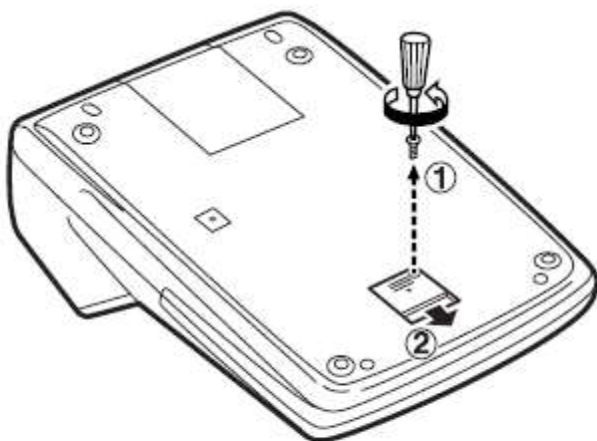

Fig. 1
2. Remove the battery cover on the back of the unit. (Fig. 1)